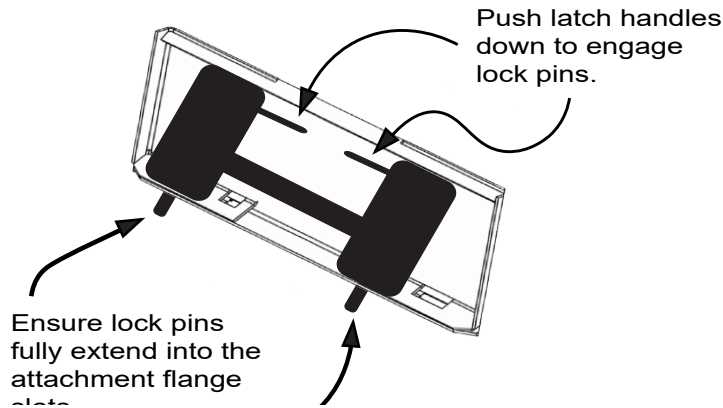

Figure 3.2b Quick Attach Mechanism Locked to Attachment Plate
4. Activate your skid steer's lever lock switch to lock the pins into the flange slots of the brush cutter's attachment plate. If your skid steer does not have this switch, manually lock the levers as shown in Figure 3.2b below.